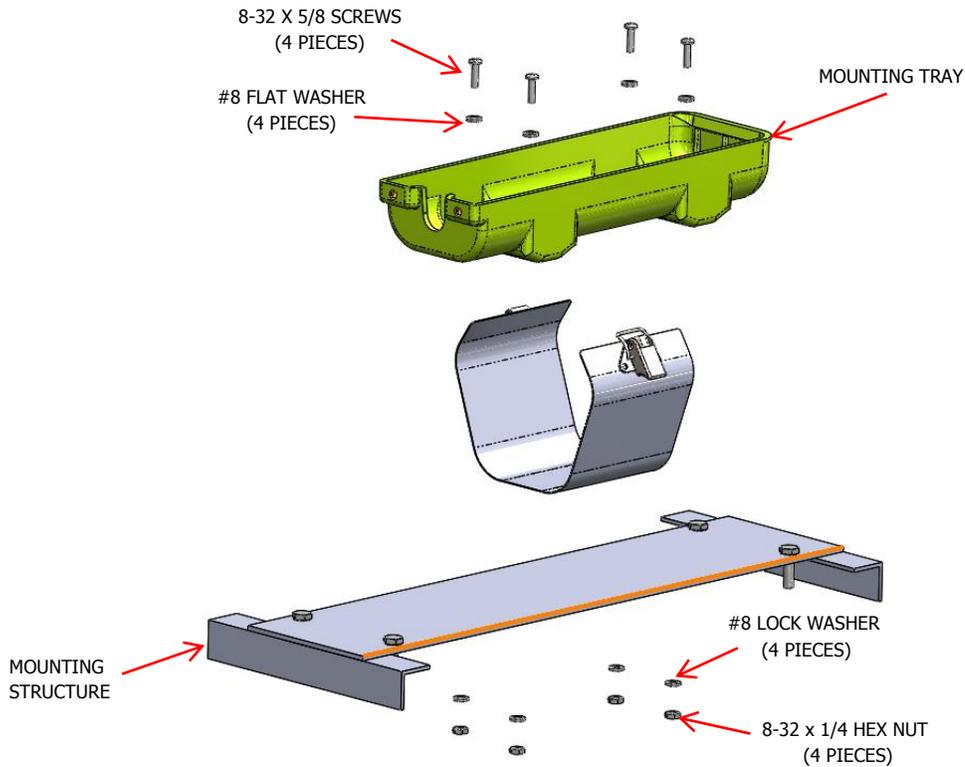

Figure 13 Typical Mounting Assembly Installation
- 1) See Figure 13.
- 5) Install the mounting tray as shown in Figure 13.